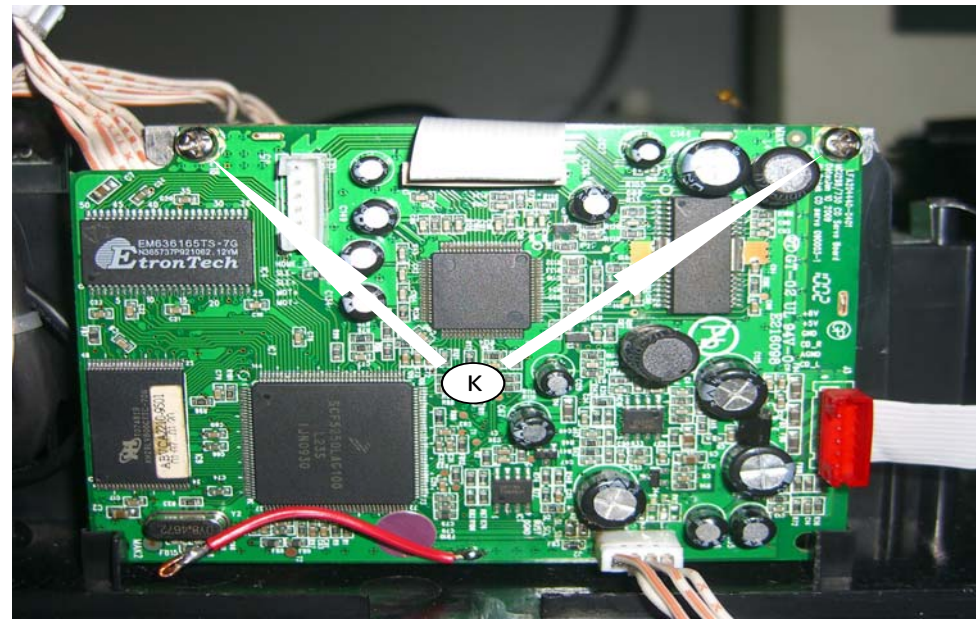

Figure 11
- 1) Loosen 2 screws "K" to detach CD Servo Board as shown in figure 11.